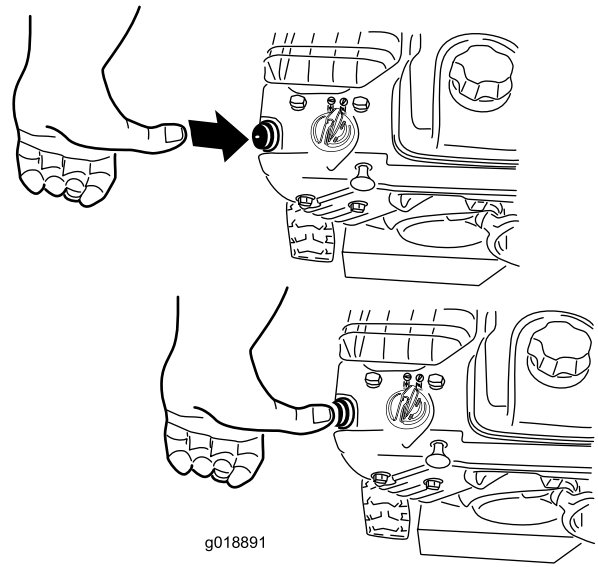

Figure 23
4. Firmly push in the primer with your thumb 2 times (-9°C or 15°F or above) or 4 times (below -9°C or 15°F), holding the primer in for a second before releasing it each time (Figure 23).